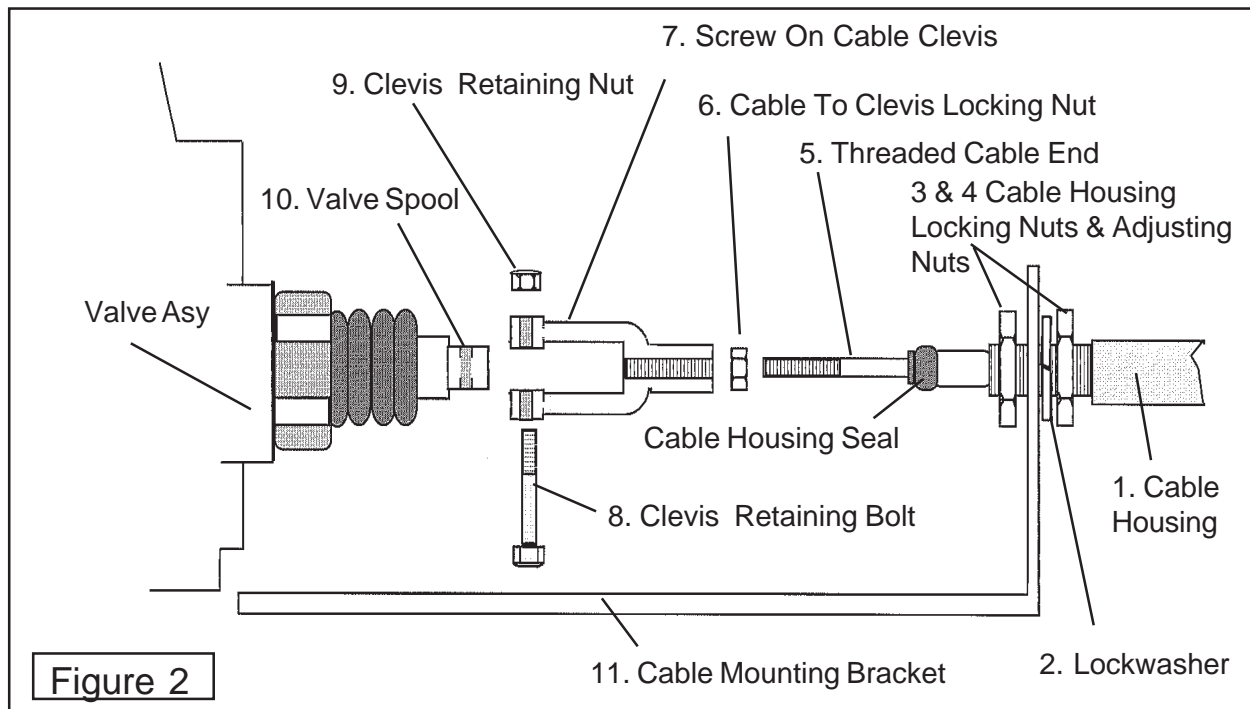

Figure 2
The Remote Control Cables Connection to the valve and the Control Handle assembly. See Figure 2 for listing of items (1 thru 8) listed in assembly steps.
1. Remove the phillips head screws that are in the valve body next to the spool end (8). There are bolts in kit that will be used to replace these screws when needed (See Figure 2).
2. Slide the Bolt flange (8)
3. Thread .750-16 NF jam nut entire length of threaded hub and onto the cable (7).
5. Thread .250-28 NF jam nut onto cable threaded rod until it bottoms (3).
6. Place connector onto threaded rod and against jam nut. Align connector so it will mate with spool terminal and secure jam nut against connector (4).
7. Slide the connector onto spool and align the holes. Insert pin through connector and spool holes (5). The control cables will need to inserted through the floor of the tractor cab and the Control Levers will need to be assembled to the cables before continuing with the next assembly steps.
9. Tighten the .750-16 NF jam nut against the sleeve to lock in position (6).
10. Bring flange into position and bolt assembly to valve housing. Tighten screws sufficiently to flatten lockwashers / secure flange (8). Caution, overtightening flange bolts will distort flange.
- 1. Remote operation of the boom movement control valve** can be achieved with the use of cables and remote actuator handles. The remote operation system is standard equipment on cab tractor and ROPS tractors as well (See Figure 2). Cable lengths will vary based on the length required to reach from the valve to the Operator's location with out binding or kinking. This cable length is determined by which model tractor the boom is mounted on. See the tractor mounting instruction for the type tractor being used. The Cable lengths are limited to 48,60,72 and 102 inches.
- 3. Install Valve Cable Mounting Bracket**, The valve cable mounting bracket will have 5 holes to mount 5 cables (See Figure 2). The cable will be shipped with the components on them or in a separate package.